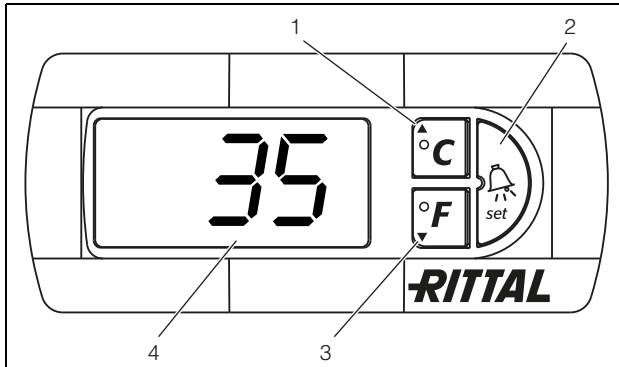

Fig. 17: e-Comfort controller
The e-Comfort controller has a 7-segment display (fig. 17, no. 4). After switching on the power supply, the current software version initially appears on this display for approx. 2 seconds together with the symbol to show Eco mode is enabled, followed by a preset option (e.g. t10) or the temperature. In regular operation, the display shows both the temperature (in degrees Celsius or Fahrenheit – users may switch between the two) and any error messages.
The unit is programmed using buttons 1 – 3 (fig. 17). The relevant parameters also appear in the display.
- Simultaneously press buttons 1 and 2 (fig. 17) for at least five seconds.
Using buttons 1, 2 and 3 (fig. 17) you can change 24 parameters within the preset ranges (min. value – max. value).